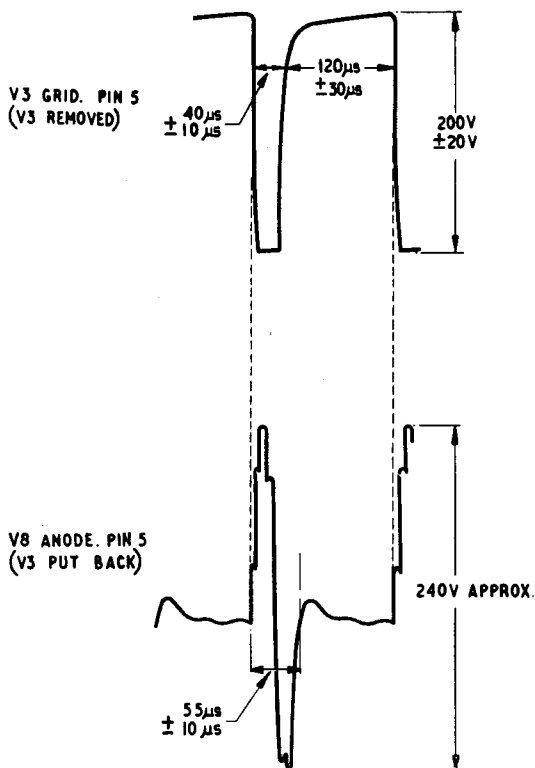

Fig. 2. EHT unit waveforms
26. If the unit is not operating satisfactorily use the oscilloscope 9172 to check the multi-vibrator waveform as shown in fig. 2. Use only the test points shown in the figure.
Use A.C. TO Y2 connection on the CRO; the waveforms on the screen will be inverted forms of those shown in fig. 2.